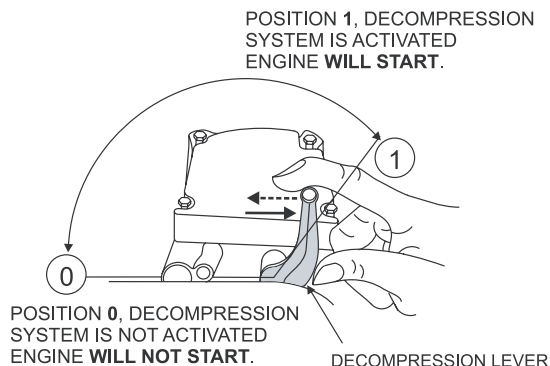

Figure 15. Decompression Lever
1. Pull up the decompression lever to the starting position (Figure 15). The decompression lever will automatically return to the original position when the engine starts.